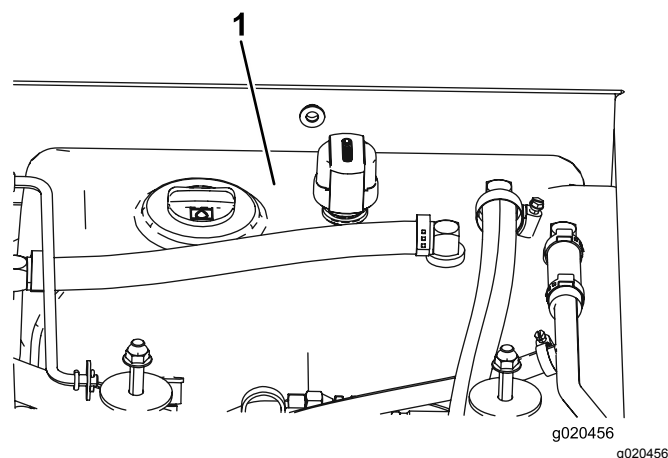

Figure 100
4. Fill the reservoir (Figure 100) with hydraulic fluid; refer to Checking the Hydraulic Fluid \(page 68\).